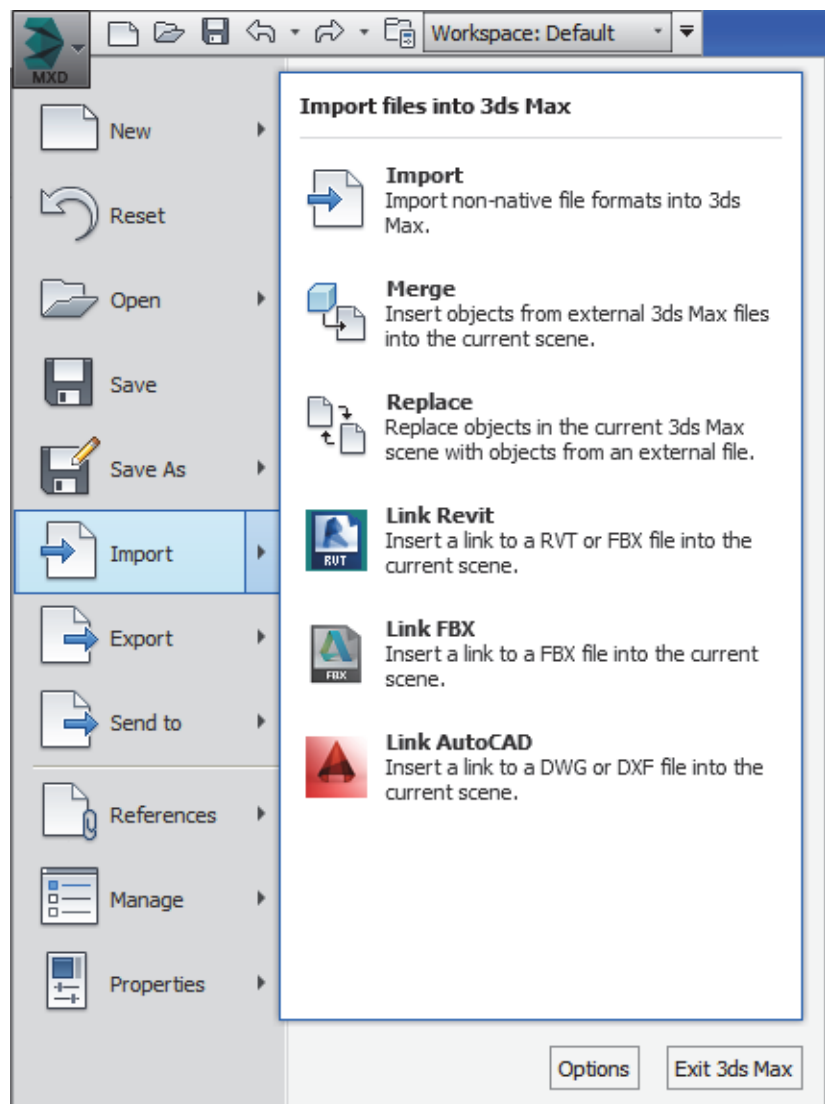

Figure 3–1
- File links and imports are launched by clicking (as shown in Figure 3–1): expand , expand Import, and select **Link Revit/FBX/Link AutoCAD** or expand , expand Import, and select **Import**.